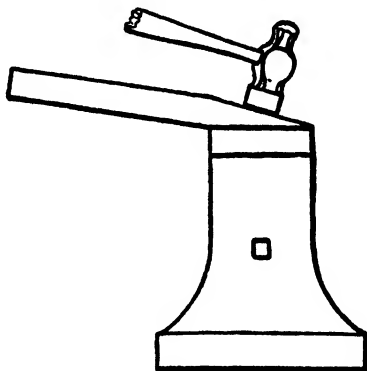

FIG. 17
3. If the stock is to be drawn to a point, raise the handles of the tongs and draw the stock to a blunt point, keeping the point of the stock even with the far edge of the anvil. To finish the taper, lower the tong handles and deliver blows so that the face of the hammer will form the angle of the taper desired with the face of the anvil. If the stock is to be drawn to a round taper draw it to a square taper first, then octagon and finally round. Fig. 17.